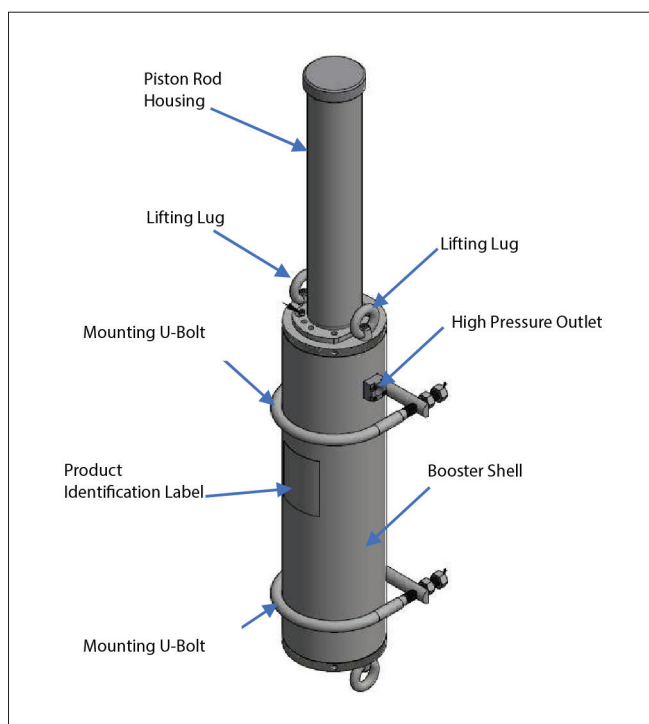

Figure 6: Piston Accumulator Isometric View
Flowserve's Standard Piston Accumulator (PA) is designed to meet and exceed the requirements stated in the Fourth Edition of API Standard 682 for Plan 53C. Its fully machined design allows for quick delivery, ease of operation and maintenance. Refer to figures 6 and 7 for an isometric view and $\frac{3}{4}$ section isometric view of the PA.